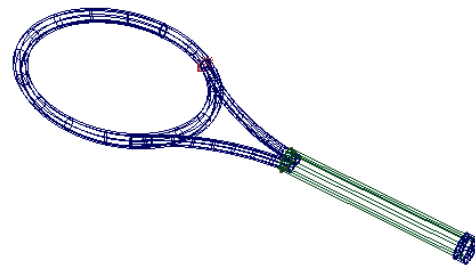

Figure 3-82 Cap created after scaling the cylinder non-uniformly
4. Choose the **Non proportional scale** tool from the **Transform** tab in the **Palette** and scale the cylinder non-uniformly along the X, Y, and Z axes, as shown in Figure 3-82.